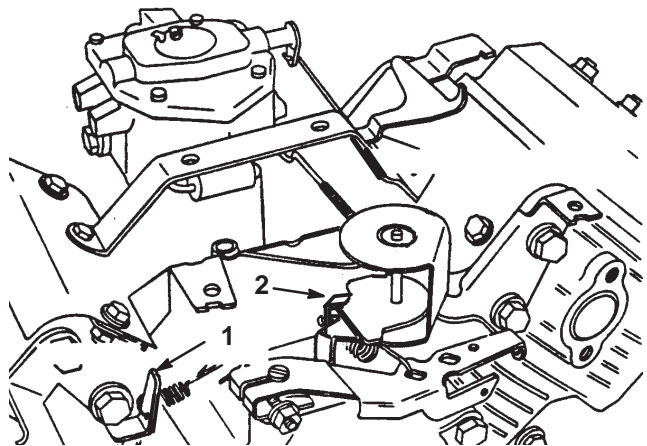

Figure 38
3. Bend the governed idle spring anchor tang (Fig. 38) to attain an idle speed of 1450 ± 50 RPM. Check the speed with a tachometer.
5. Move the throttle control to the Fast position. Bend the high speed spring anchor tang (Fig. 38) to attain a high speed of 2850 ± 50 RPM.